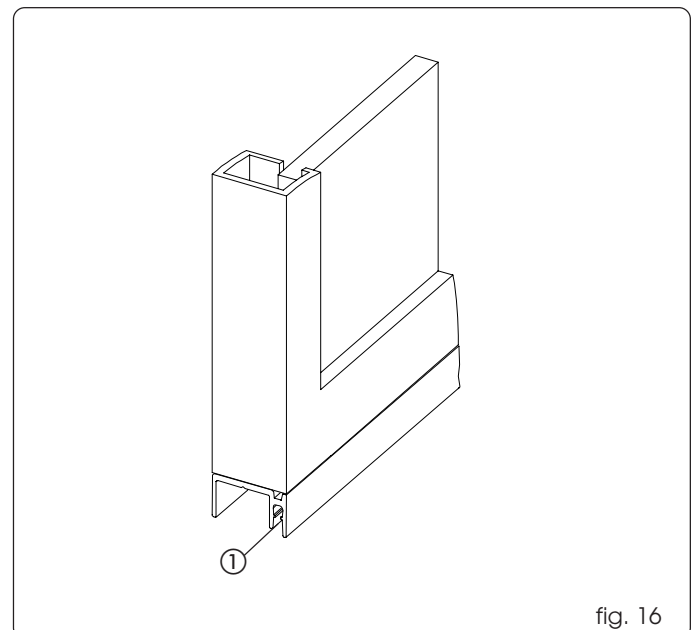

fig. 16
Cut the lower sliding profile to the same length as the leaf and secure it to the lower part - fig. 16.
If specified, insert the brush in the seat of the sliding profile as shown in fig. 16 ref. ①.